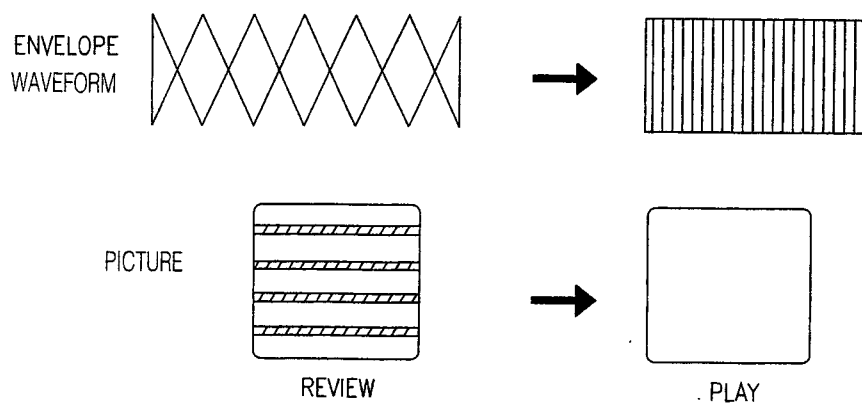

Fig. 5-10 CHECK OF TRANSITIONAL OPERATION (FROM REVIEW WAVEFORM TO PLAY WAVEFORM)
I. REVIEW → PLAY (See Fig. 5-10)